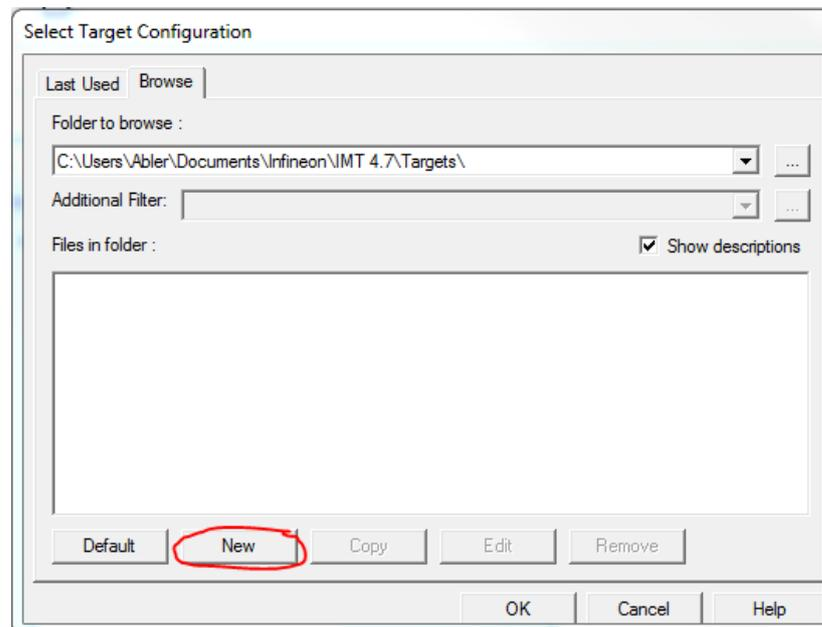

Figure 3: Creating New Configuration
5. Create a new configuration (Figure 3):